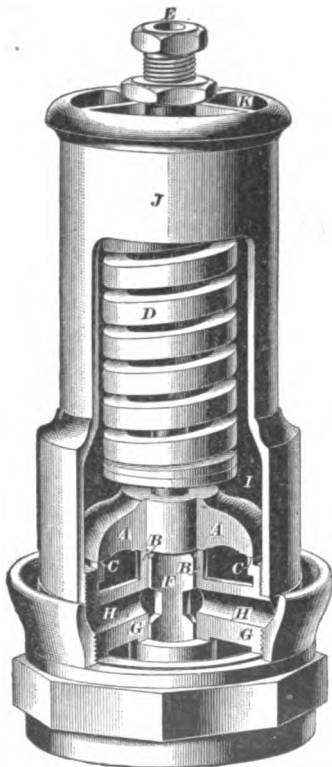

FIG. 6.
15. **Description.**—In Fig. 6 is shown the Crosby safety valve. Here the valve proper *AA* rests on the two annular flat seats *BB*, *CC*, being held down against the steam pressure by the spring *D*, the tension of which is regulated by screwing the bolt *E* in or out. The larger of the two seats *CC* is formed on the upper edge of the valve body, the smaller seat *BB* being formed on the upper edge of the cylindrical chamber *F*. This chamber connects with the shell or body of the valve by means of the hollow arms *G*, *G*, the passages *H*, *H* allowing the steam to escape to the atmosphere when the valve is open.